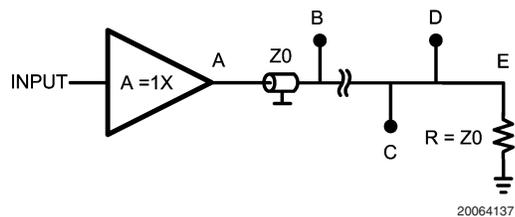

FIGURE 2.
- Use one buffer to drive to multiple points on one transmission line (see Figure 2)
Another transmission line possibility is to route the trace via several points along a transmission line (*Figure 2*) This is only possible if care is taken to observe certain restrictions. Failure to do so will result in impedance discontinuities that will cause distortion of the signal. In the configuration of *Figure 2* there is a transmission line connected to the buffer output and the end of the line is terminated with  $Z_0$ . We have seen in the section 'Connecting a load using a transmission line' that for the condition above, the signal throughout the entire transmission line has the same value, that the value is the nominal value initiated by the opamp output, and no reflections occur at the end point. Because of the lack of reflections no interferences will occur. Consequently the signal has every where on the line the same amplitude. This allows the possibility of feeding this signal to the input port of any device which has high ohmic impedance and low input capacitance. In doing so keep in mind that the transient arrives at different times at the connected points in the transmission line. The speed of light in vacuum, which is about  $3 \times 10^8$  m/sec, reduces through a transmission line or a cable down to a value of about  $2 \times 10^8$  m/sec. The distance the signal will travel in 1ns is calculated by solving the following formula: